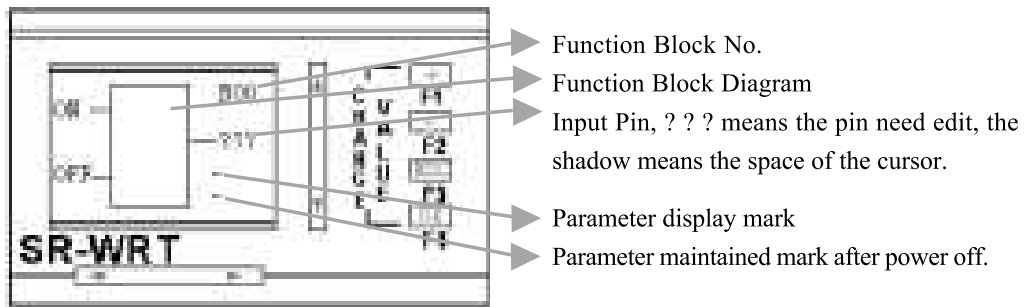
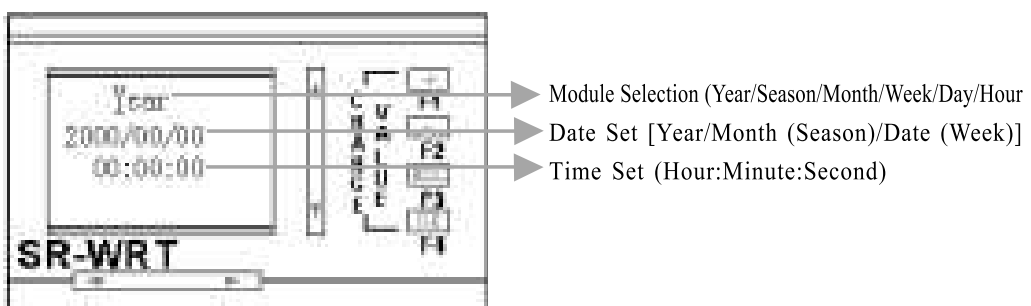
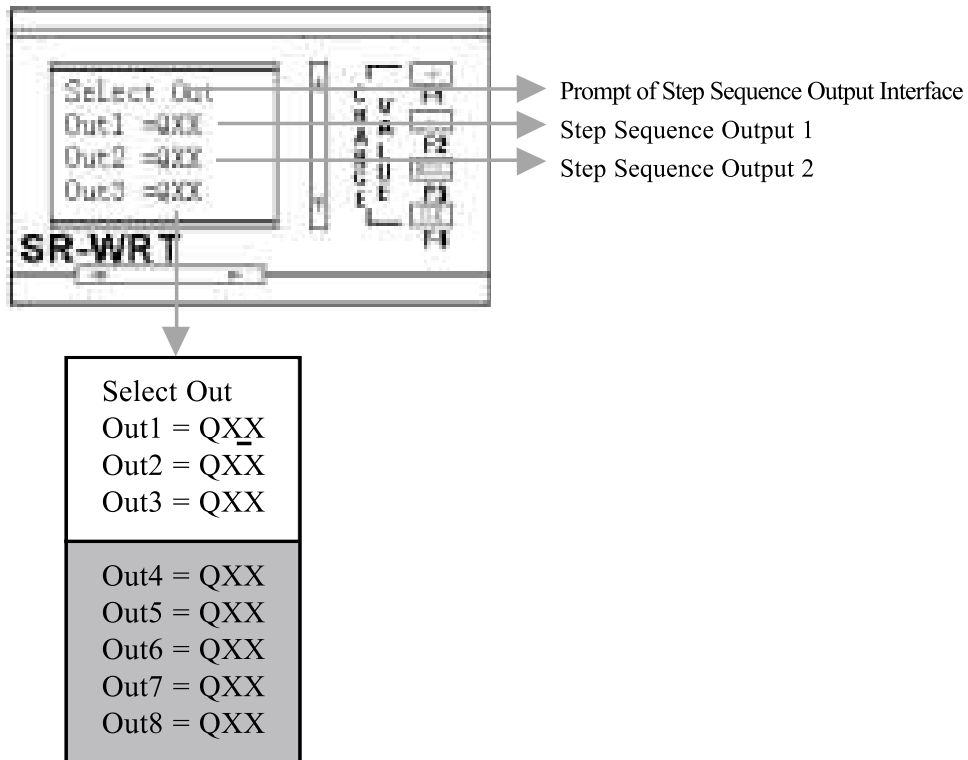

Fig. 10.31 Function Block Edition Interface
Fig. 10.32 Clock Time Edit Interface
Fig. 10.34 Step Sequence Output Edit Interface
1. Select the function. In Fig. 10.7, move “>” before 17 SCHED and press OK to enter Fig. 10.8. Move “>” before YES and press OK key to enter Fig. 10.31, Function Block Edition Interface.
In Fig. 10.31, B00 is the sequence No. of the function block, which is produced automatically in programming and is not able to be edit. The ON of the left side means the space to modify the ON date and the OFF of the left side means the space to modify the OFF date.
3. Select and Edit Point ON: The cursor “█” will also appear in M00. It is need to edit the ON time. Press OK key and cursor will change from “█” to “_”. Press LEFT, RIGHT key, the cursor will be moved under OFF. Press UP, DOWN key, the cursor will be moved under ON. Now the cursor is “_”. Press OK key, Fig 10.32, Clock Time Edit Interface will be displayed.
In Fig. 10.32, “_” is the cursor. The space of the cursor can be changed via UP, DOWN, LEFT, RIGHT and the data or module of the cursor can be changed via +, -. In Fig. 10.32, change the YEAR into DAY and change time to 6:30, thus the time of ON is set. Press OK key to return to Fig. 10.31. But at this time the cursor will be “■” and be on the “O” of ON. The input of this point can be selected via +, -. If “-” is selected, which means this point is not used. If this point is needed, select “On” and press “OK” key, change cursor to “_”. Then select and edit other points.
6. Return to Fig. 10.7, Function Block Selection interface. The edit of function block B00 is finished via the above steps. Press ESC, all the points are edit correctly and return to Fig. 10.7. Otherwise the wrong points will be displayed in Fig. 10.31 as “? ? ?”. And the cursor will be in the first “?” as the form of “■” and wait for the edition. And the mistakes at this space include the following three points:
Select and Edit B01: Via the above procedure, select function block 17SCHD. Through the confirmation in Fig. 10.8, it will enter Fig. 10.31, function block edition interface. But the B00 is changed into B01, which means the function block edited is
Select and Edit B04: Using step 1 to select function block 22 SSEQ. Through the step 2, edit the first input port of B04 as M02. After confirmation, through step 3, move cursor to the second input port and edit it as LO. Through step 3, move cursor to the first output port “OUT” at the right side. At this time the cursor will be “_”. Press OK key to enter Fig. 10.34, Step Sequence Output Edit Interface.
In Fig. 10.34, Step Sequence Output Edit Interface, “_” is the cursor. The step sequence can be edit via UP, DOWN, and the space of the step sequence can be edit via LEFT, RIGHT. Notes: Q cannot be selected. Only XX can be selected and edited. Change the data of the cursor via +, -. Change QXX to the output we needed. In edition procedure, please be attention the following notes. 1. When editing the step sequence, the output of the above step sequence cannot be as QXX. It must be on detailed output. If we want to edit Out 4 =QA3, then the output port of Out1, Out2, Out3 cannot be QXX. They must be the detailed output, for example, Out1=QA0, Out2=QA1, Out3=QA2 and so on. 2. To be convenient to the user, we design the menu as circle menu. For example, in Fig. 10.31, if the cursor in the second line of the WRT (caused by the first action prompt). The symbol of the above step sequence is Out1. Now Out8 is needed to be edited. Pressing DOWN eight times is too trouble. Directly press UP key one time. The cursor will be on Out8 directly and user can edit.
Out7 =QA6, Out8 =QA7. Press OK or ESC key. If the output ports of the eight step sequence are not as the same as the outputs of the above function blocks. It will enter the function edition interface. Otherwise, the same output ports will be displayed in Fig. 10.34 as Q?? and the cursor will be on the first ? for the user to finish the edit. In function block edition interface, through step 6 to return to Fig. 10.7, thus the edition of B04 is finished.